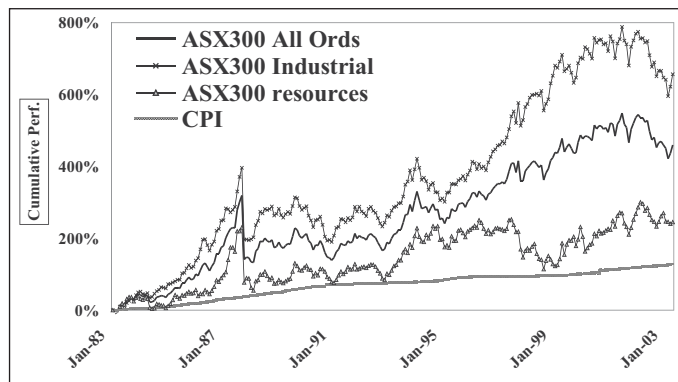
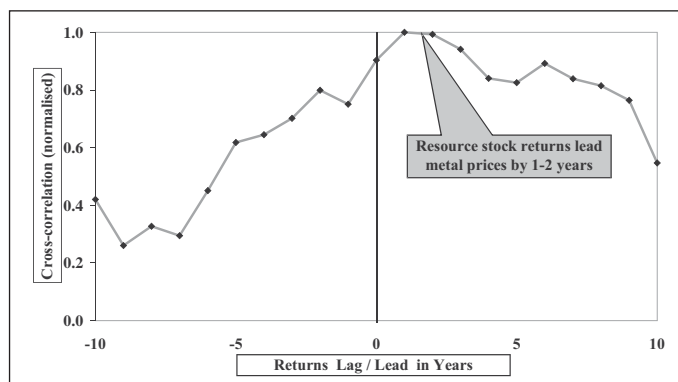

Fig. 3. Performance for resources, industrials, ASX during 1983–2003; two periods of resources significantly under-performing occurred in mid 1980s, late 1990s.
Fig. 5. Cross correlation of resources and base metal price index; a strong correlation is apparent, with returns leading commodity price index by 1–2 years.
The first self-potential (SP) survey at West Swan did not yield any useful results due to the poor electrical contact between the ground and the potential electrodes. Near surface resistivity was of the order of 5000–20,000  $\Omega$ m due to a long period without rain in the Perth area. A plot of the results from the first and second SP surveys is displayed in Figure 3, superimposed on a plan view of the site showing the locations of the major trees. The second SP survey performed at West Swan produced the highest anomalies, voltages of up to 70 mV where the trees were closest to the survey line. From Figure 3, it can be seen that small
Fig. 3. A plot of self-potential measurements at the West Swan area superimposed upon a plan view of the area showing the relative location and size of the trees. Note that the survey line is along the horizontal 0 m axis. The red line is from summer measurements, and the blue line is from early winter measurements. The peak-to-peak amplitude of the SP signal is 80 mV. Negative anomalies from the early winter data correspond well with proximity to trees.
Fig. 5. (Above) Time-lapse GPR data from the West Swan area. The left panel is from data collected during the end of a long and dry summer, whilst the panel on the right was collected with an identical configuration in mid-winter. Both panels have been processed and plotted the same way, but the difference is striking. The weak diffractions at about 30 ns in the left panel have become stronger and arrive later in time over 0 to 10 m along the survey line. This effect is due to the increase moisture from recent rains in the area. However, the diffractions appearing in the first 50 ns in both panels 12 to 20 m along line have not changed in arrival time appreciably because the roots from nearby trees are extracting the water from the soil.
The first full set of transect data collected at the West Swan site is shown in the left panel in Figure 5. The data appears to be interpretable for the first 100 ns and then the noise generally dominates. However, there are some dipping interfaces than can be traced almost down to the bottom of the section at 200 ns. Many of the layers present in the upper half of the section appear to be multiples or a product of antenna coupling (often seen as "ringing"), appearing at regular time intervals and of a regular, similar lateral variation. Several features in the data appear to be definite geological boundaries as the arrival time of the features alters between stations. Artifacts from antennae interference tend to be constant in their time of occurrence. The lowest of the sub-horizontal geological features, appearing at roughly 90 ns, is most likely a clay layer. The dramatic drop in the signal-to-noise ratio below this feature indicates that it is an area with a significantly higher dielectric constant than the ground above it as the lower velocity causes a decrease in the signal energy reflected back from the interface. This interface does not appear to be the water table, as nearby boreholes show the water table to be deeper. It also occurs at roughly the same depth as a more conductive layer found by a Schlumberger sounding performed on the same date. Below this interface there are some faint interfaces that dip towards the north. None of these features can be traced through the interface discussed above, indicating it is an unconformity of some form. This confirms the interpretation of the above interface being a clay layer, as these dipping layers beneath it are very likely sedimentary features from when the nearby Swan River was at a higher level. The clay layer was most likely formed when the river dropped and the dipping beds were exposed for weathering.
While there are densely planted trees at the site, there is little obvious evidence of tree roots in the left panel in Figure 5. Some small disturbances (diffractors) can be seen along the interface at approximately 30 ns. These appear to be from tree roots. The second panel in Figure 5 was surveyed after significant rainfall. The presence of water in the soil profile for this survey has significantly altered much of the section; as opposed to the multiples and clay layer in the first 80-100 ns, a series of diffractions are clearly seen in this portion of the section. Below this, the signal-to-noise ratio is lower than that in the left panel. The upper surface reflector (approximately 20 ns) arrives at a later time. This is consistent with a higher amount of water in the near surface. The most significant temporal changes are in the first 60 ns of data where the weak diffractions occurring along 0 to 12 m along the line in the left panel arrive later in the right panel of Figure 5, and have greater amplitude. Diffractions seen (in the first 50 ns) 12 to 20 m along the line are largely unchanged in position in the section. Note that in the plan view in Figure 3 there are a number of large trees close to the line from 10 to 20 m along the survey line. It appears that the velocity changes can be attributed to changes in water moisture from recent rains, and that the root systems are depleting the soil of moisture with reasonable efficiency. In addition, stronger amplitudes from diffractions seen in the right panel of Figure 5 may indicate that the source of the diffractions, the roots, has changed too. Presumably, the roots are rich in sap after the rainfall and provide greater contrast.
Figure 5 shows a more appropriate measure of cross-correlation between the two series, which determines if there is any lead/lag time between them. (The two series are smoothed with a rolling annual filter, with the stock returns run past the commodity prices).